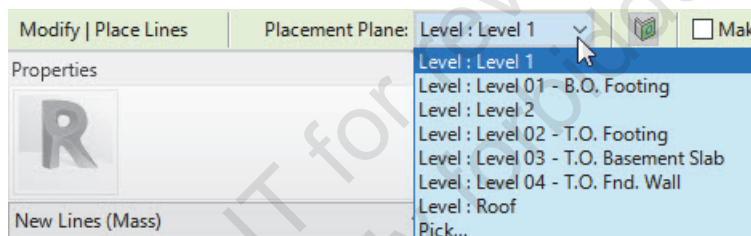

Figure 1–48
3. In the Options Bar, in the *Placement Plane* drop-down list, select a *Level* or named reference plane, as shown in Figure 1–48.